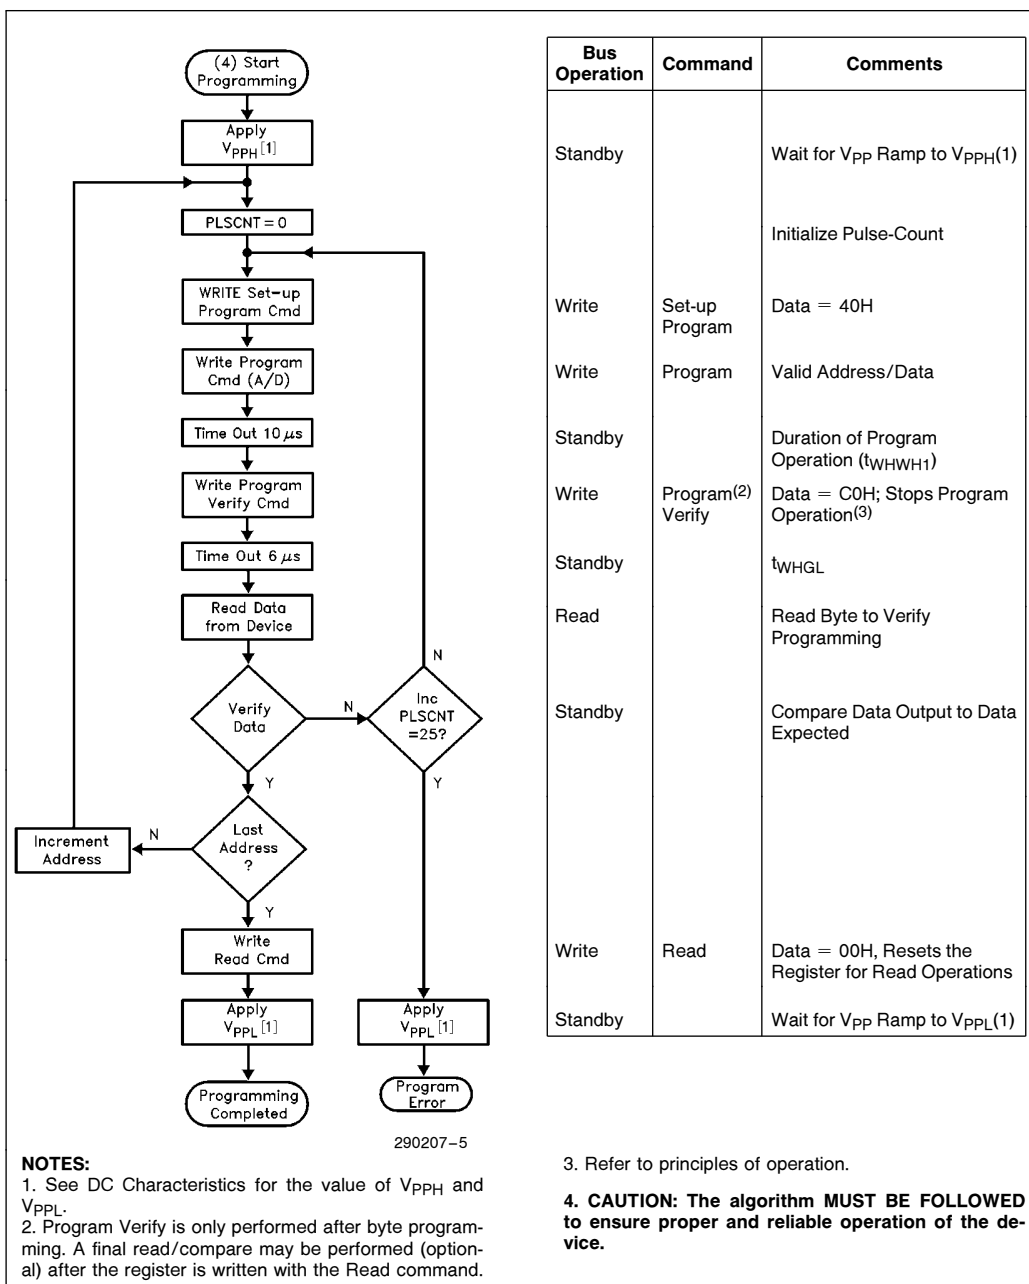

Figure 5. 28F010 Quick Pulse Programming Algorithm
6. Figure 5 illustrates the Quick Pulse Programming Algorithm.
The 28F010 applies an internally-generated margin voltage to the byte. A microprocessor read cycle outputs the data. A successful comparison between the programmed byte and true data means that the byte is successfully programmed. Programming then proceeds to the next desired byte location. Figure 5, the 28F010 Quick Pulse Programming algorithm, illustrates how commands are combined with bus operations to perform byte programming. Refer to AC Programming Characteristics and Waveforms for specific timing parameters.
The Quick Pulse Programming algorithm uses programming operations of 10  $\mu$ s duration. Each operation is followed by a byte verification to determine when the addressed byte has been successfully programmed. The algorithm allows for up to 25 programming operations per byte, although most bytes verify on the first or second operation. The entire sequence of programming and byte verification is performed with Vpp at high voltage. Figure 5 illustrates the Quick Pulse Programming algorithm.